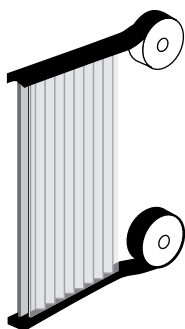

Figure 17b
3. Sealing the Sheets is done by aluminum impermeable, or ventilated filter sticky tapes, as described in the paragraph "Pre-preparation of the sheet" above. Such specialty tapes can be obtained from the leading tape manufacturers, or through Palram dealers (See figures 17b, 17c).